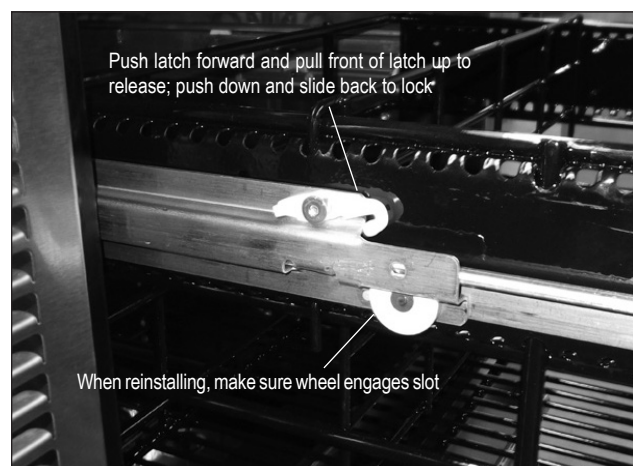

Figure 16: Removing/Installing Drawer
1. Open the door, or remove the upper drawer (see Removing Drawer, Figure 16).